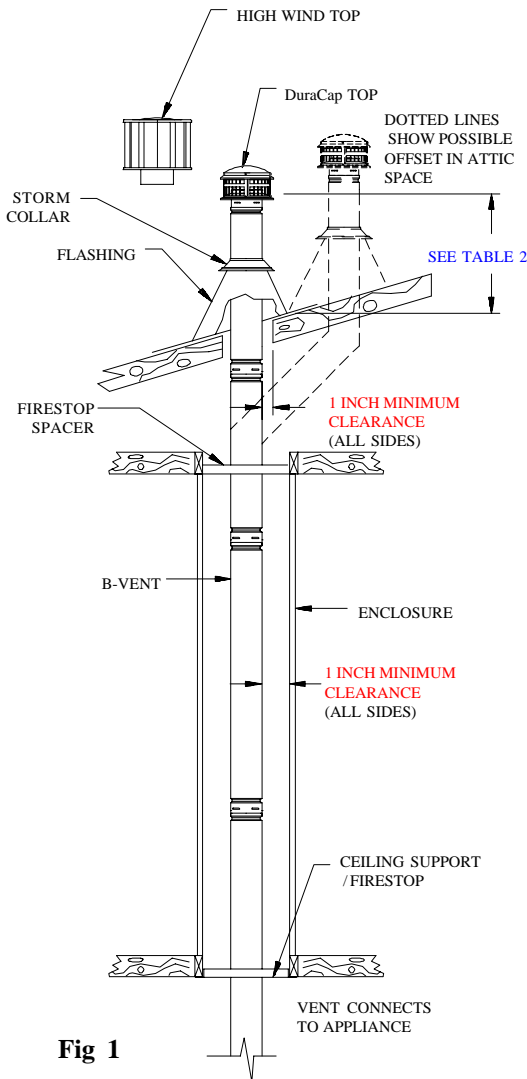
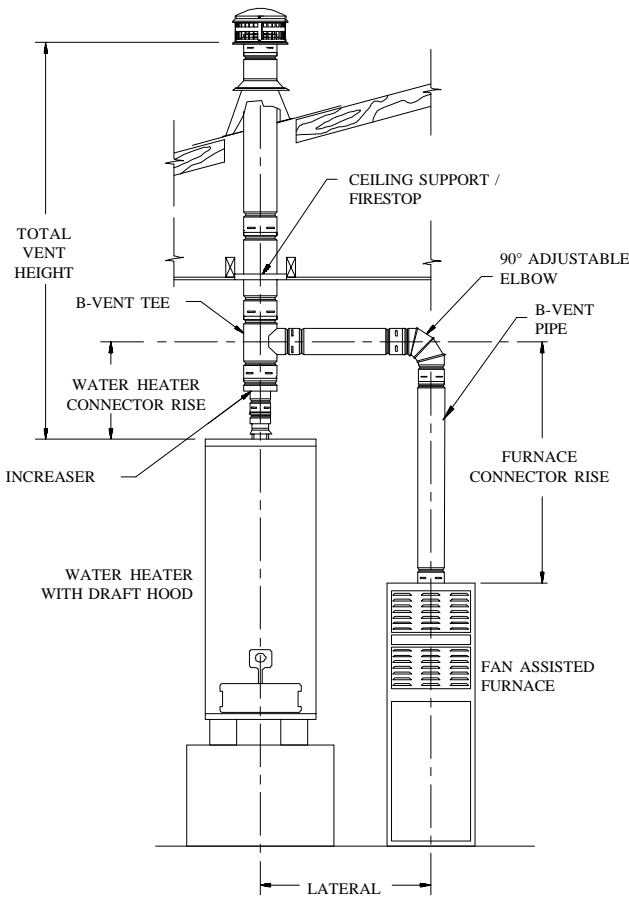
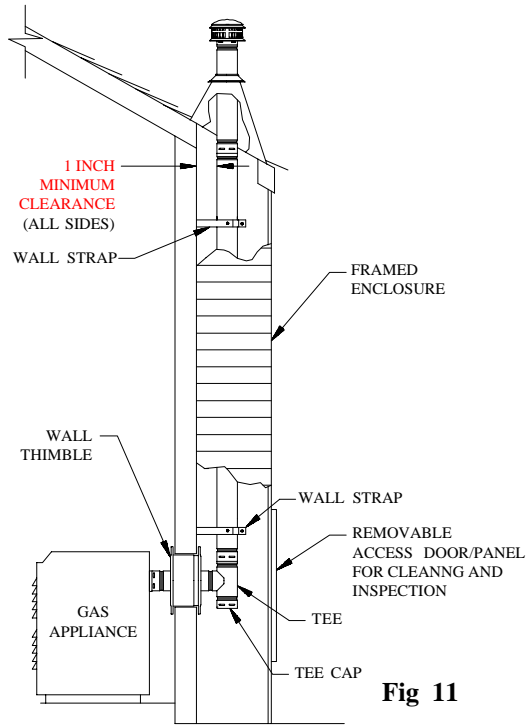

Fig 1
Fig 2
Fig 11
3. **Figures 1, 2, & 3** show examples of some typical residential installations.
8. **Tees and Wyes.** **Tees** and **Wyes** are used to combine connectors from 2 or more appliances into a common vent as shown in **Figures 2** and **3**. A **Tee** should be used in a through-the-wall application, (**Figure 11**), as they have a removable **Tee Cap** (available as a separate item) attached to the bottom. This **Tee Cap** may be removed in order to inspect the system, or to clean out debris or collected condensate from the common vent. **Wall Straps** should be used to support the vertical pipe as needed to provide a secure installation. **Wall Straps** every four feet are recommended.
burns. **Figure 1** (page 2) shows a system which passes through an occupied second floor. Simpson Dura-Vent does not recommend installation of B-Vent Pipe on the outside wall of a building, particularly in cold climates. If it is necessary to do this, enclose the outside portion of the system in a chase, as shown in **Figure 11**.